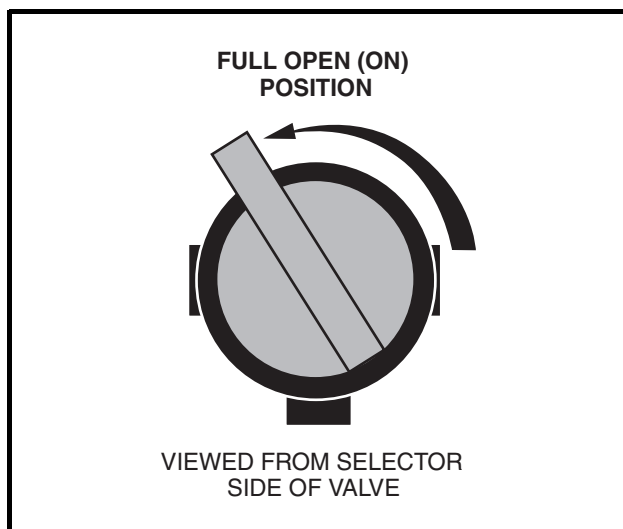
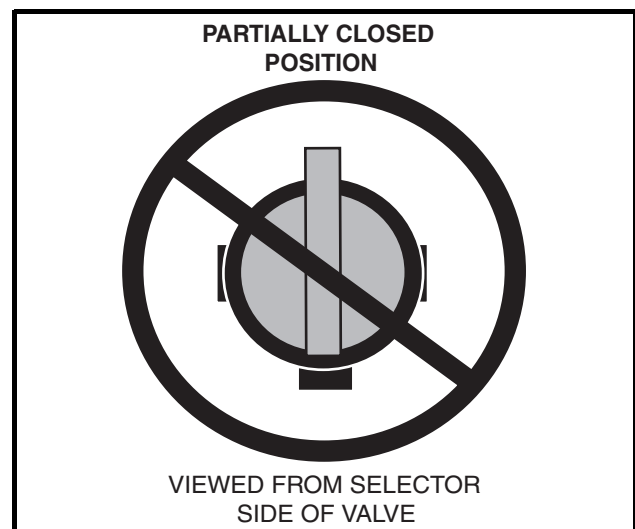

Figure 14-16 Open Fuel Shut-off Valve
Figure 14-17 Incorrect Fuel Shut-off Valve
6. Turn the fuel shut-off valve on top of the fuel tank to the open position (**Figure 14-16, Page 14-24**).
11. Check to be sure the fuel shut-off valve on top of the fuel tank is in the open (ON) position (**Figure 14-16, Page 14-24**).
The valve's open position differs from standard valve configurations. For the valve to be fully open, it must be turned approximately 120° from the closed (OFF) position (until it cannot be turned any further) (**Figure 14-16, Page 14-24**). If the valve becomes partially closed (**Figure 14-17, Page 14-24**), the engine will not run properly due to fuel starvation.